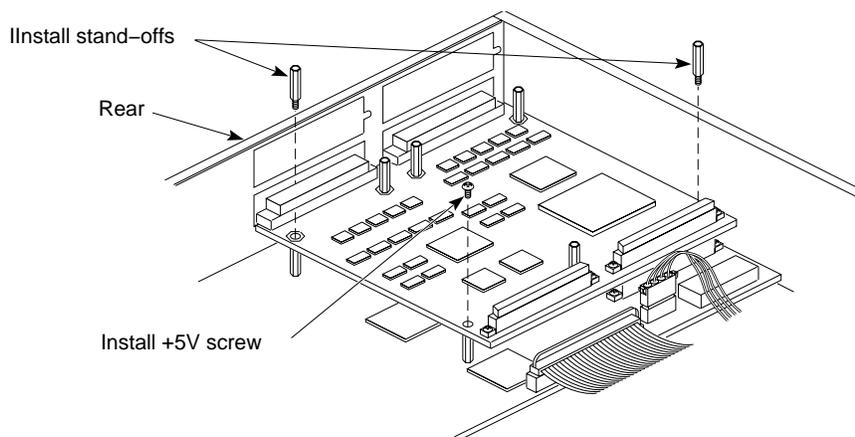

Figure 2-17 Installing the IOPLUS Board
5. Attach the standoffs and +5V screw, as shown in Figure 2-17.